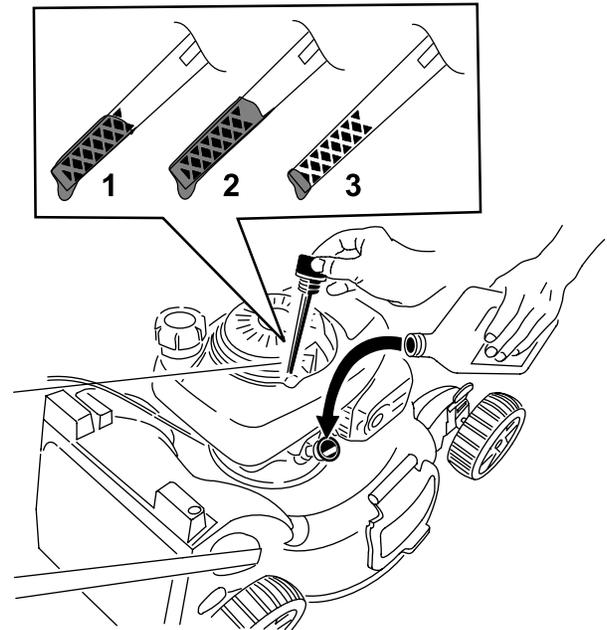

Figure 16
2. Remove the dipstick by rotating the cap counterclockwise and pulling it out (Figure 16).
5. Read the oil level on the dipstick (Figure 16).
- If the oil level on the dipstick is too low (Figure 16), carefully pour a small amount of SAE 30 or SAE 10W-30 detergent oil into the oil-fill tube, wait 3 minutes, and repeat steps 3 through 5 until the oil on the dipstick is at the correct level.
- If the oil level on the dipstick is too high (Figure 16), drain the excess oil until the oil on the dipstick is at the correct level; refer to Changing the Engine Oil \(page 18\).